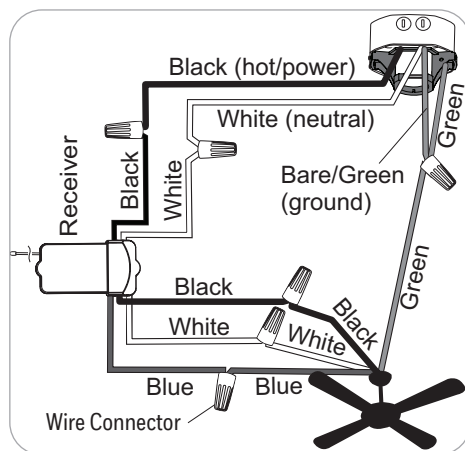

Figure 4.1
1. Use wire connectors to connect the fan wires and the receiver wires to the household supply wires according to the wiring diagram and the following instructions (Figure 4.1):